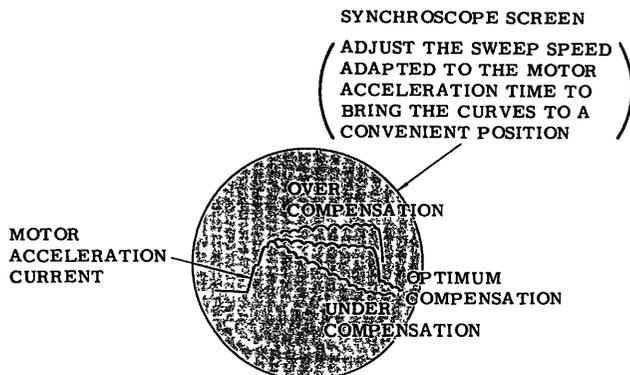

Fig 14 Adjustment of CEMF C
11. Turn the CEMF C clockwise until the acceleration current comes to show a curve as shown in Fig 14 on the synchroscope screen.